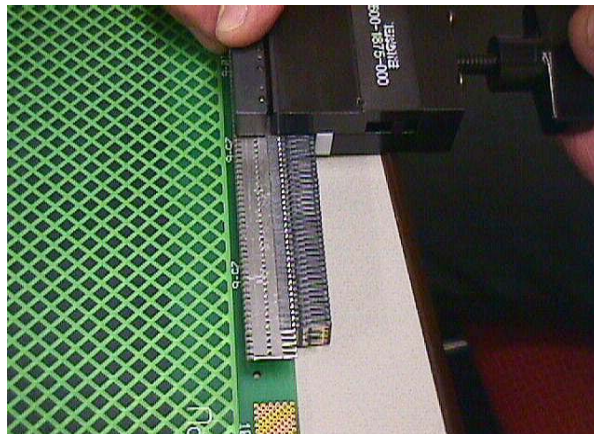

Figure 18
Step 6 Reinstall stiffener on connector using Tool No. 600-1875-000. The tool is rotated 180° from the side used for stiffener removal (Delrin insert facing down). Place the pins downward into the pilot holes at one end of the stiffener and turn the knob clockwise until the stiffener starts to move. See figure 18